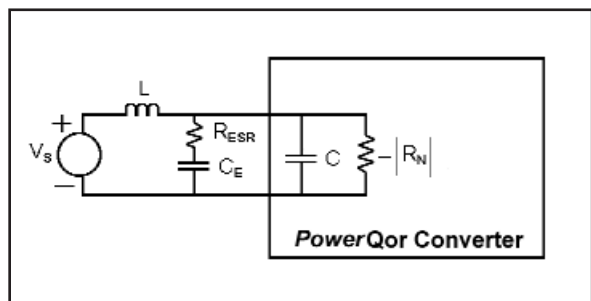

Figure 19
**Potential Input System Instability:** The preceding analysis assumes dc voltages and currents at the input to the dc/dc converter. However, for ac waveforms the incremental input model for the dc/dc converter must also include the effects of its input filter and control loop dynamics. Figure 19 shows the incremental circuit model when the dc/dc converter is connected to a power source, modeled as a voltage source,  $V_s$ , in series with an inductor,  $L$ , and some positive resistance,  $R_p$ .